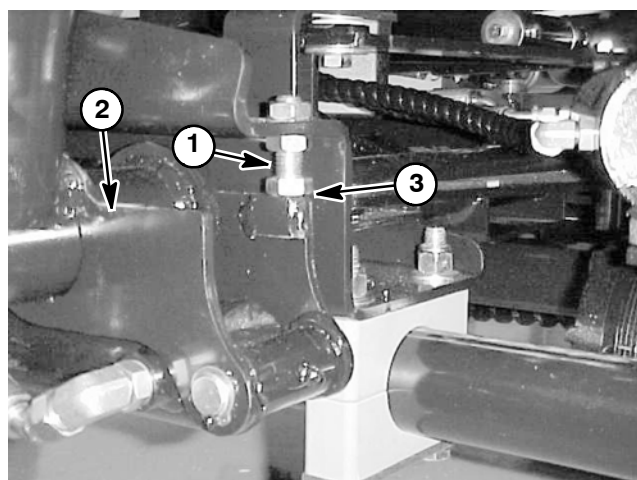

Figure 5
A. Lower front lift arms, stop engine, engage parking brake, and remove key from the ignition switch. Back off stop bolts if reducing the clearance between the lift arm and the floor plate bracket (Fig. 5).
4. With the front lift arms fully raised, make sure clearance between each lift arm and stop bolt is from 0.005 to 0.040 inch (0.13 to 1.02 mm). If the clearance is not in this range, adjust stop bolts as necessary (Fig 5).